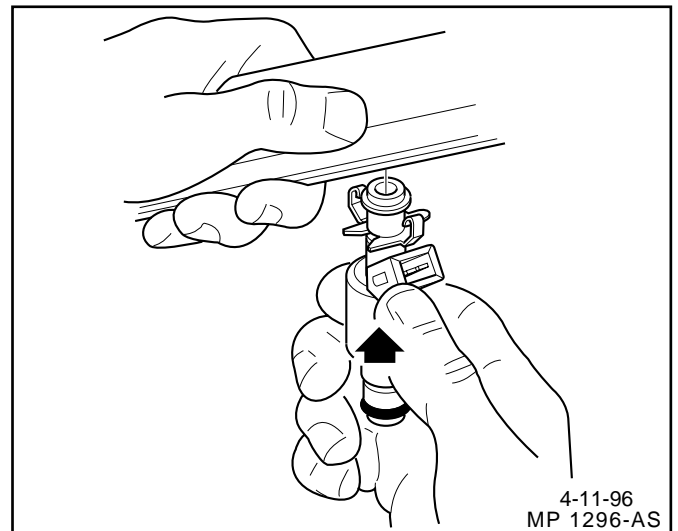

Figure 3-14 - PFI Fuel Injector and Retainer Clip
1. Release injector clip by sliding off injector (Figure 3-14).